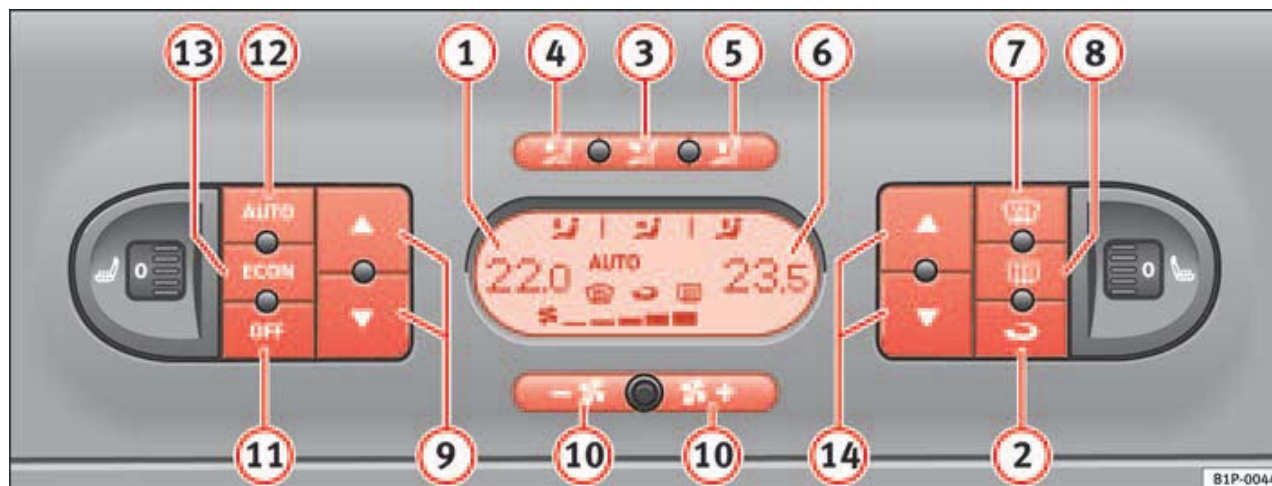

Fig. 110 On the dash panel: 2C Climatronic controls
- Press the temperature control buttons ⇒ page 145, fig. 110 ⑨ or ⑭ in order to adjust the temperature on the left-hand side or the right-hand side respectively.
- Press the button  ⇒ page 145, fig. 110. “AUTO” is shown on the display. ▶